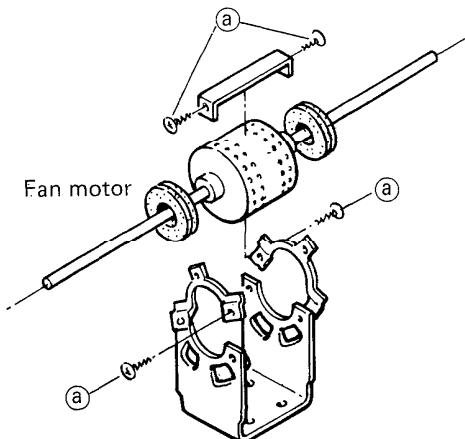

Fig. 10
- 7) When the four screws (a) are removed as shown in the figure, the fan motor can be removed. Fig. 10.